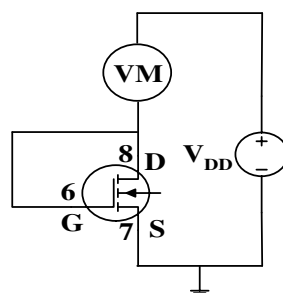

Figure 2. Circuit for measurement of V_t and K_n of an NMOSFET.
1. Measure the resistance and connect the circuit as shown in Figure 2. Note that a voltmeter (VM) is in series with the drain and V_{DD} ; and **G** and **D** are shorted. **Use the pin numbers as shown in Figure 2.**